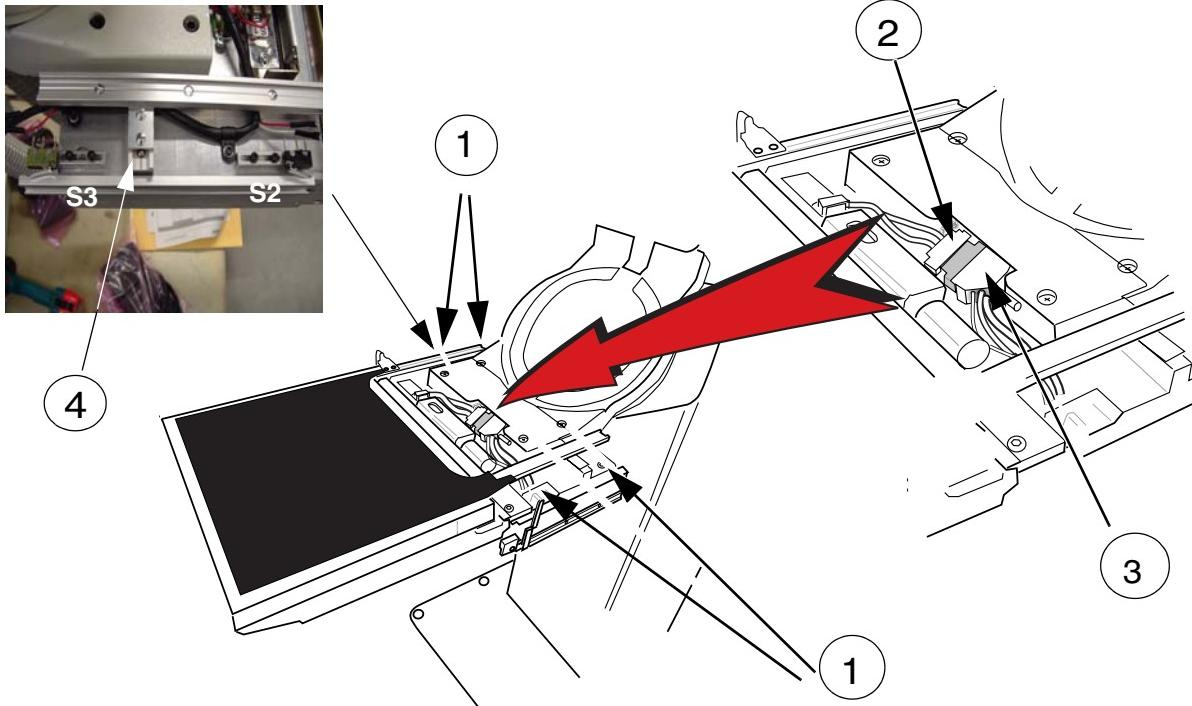

Fig. 6 Detector installation
3. Loosen the grid holder, 2 screws (4/Fig. 6).
4. Attach the detector with the four bolts (1/Fig. 6). Make sure that the bolts are tightened.
5. Insert the detector cable underneath the grid holder and tighten the grid holder screws again (4/Fig. 6).
6. Connect the detector cable (3/Fig. 6) to the cable coming out of the wing (2/Fig. 6).